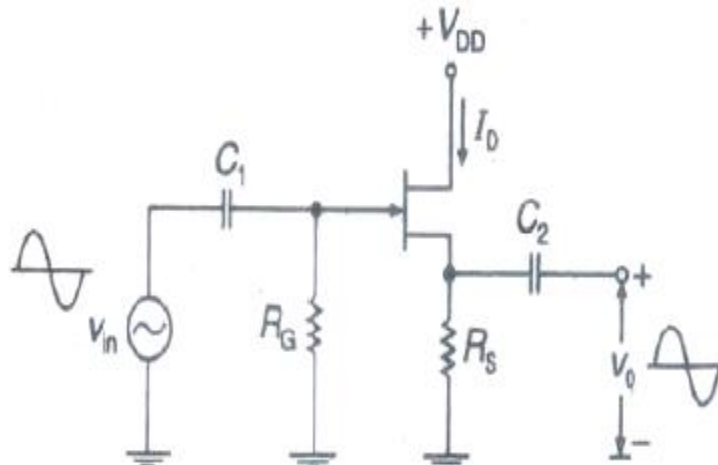

Fig. 5.5 Common Drain Amplifier
- Figure 5.5 shows the circuit of a common drain amplifier.
- This circuit has been obtained from the amplifier circuit shown in Figure 5.5 by short circuiting the capacitors and d.c. voltage supply.